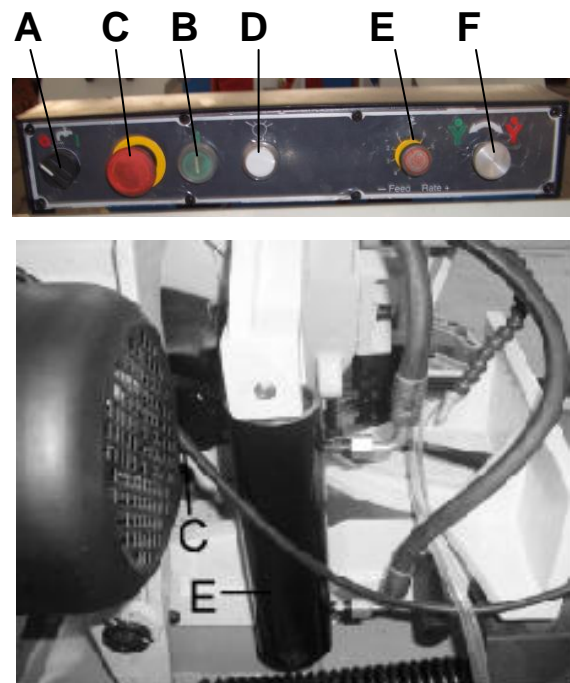

Fig.3
3. When in emergency push button (C), to stop the machine. After removing the trouble release emergency button .re-start the machine by pushing the start button (B).
4. When using the coolant turn the select button (A) to the right.
5. To adjust the feeding rate when in cutting, turn the volume valve (D) clockwise for faster feeding, counter clockwise for slower feeding. When valve (D) has been properly adjusted, turn the control valve (E) to handle saw action.
6. An automatic shut-off limit switch is provided to stop the motor when the cut is completed. The limit switch (D) is controlled by a lever (C) Fig.3, which contacts the top of the hydraulic cylinder (E) shutting off the
7. If the motor stops before the cut is completed or continues to run after the cut is completed, the limits switch (D) Fig.3. Can be adjusted up or down by loosening the two screws.